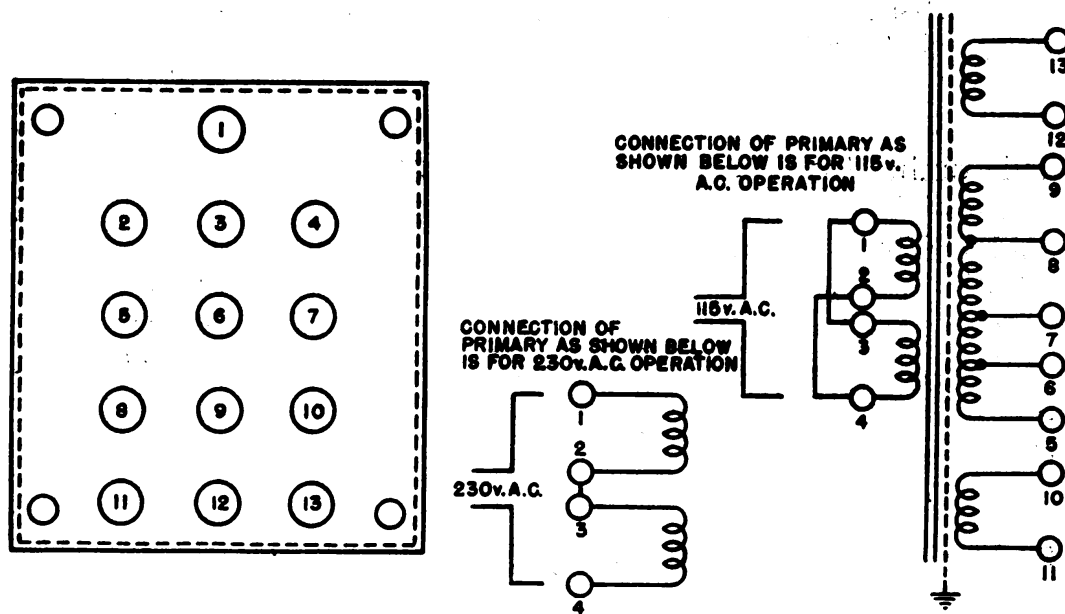

Figure 24. Power transformer connections for BC-1031-A and BC-1032-A.
- (1) Follow procedure for removal of chassis from cabinet (sub-par. a above).
- (2) Loosen the tube clamp and lift shield fingers.
- (3) Grasping the tube at its base, ease it out through the metal hood or shield which forms part of the front panel. Note that the cathode-ray tube is protected by a sponge rubber boot which will come out with the tube when it is removed.
- (4) This boot also serves to hold in place the calibrated green filter screen.
- (5) Remove boot by pulling it off the cathode-ray tube.
c. Operation of Panoramic Adaptor BC-1031-A or BC-1032-A at 230-volt AC Instead of 115-volt AC. The primary connections of the power transformer must be changed (fig. 24).